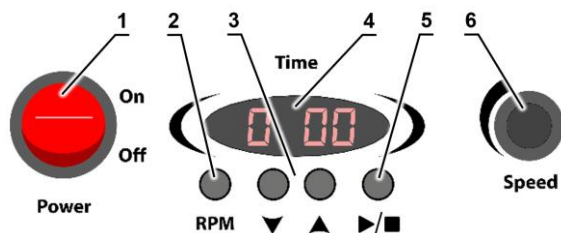

Figure 1. Control panel
- 5.3. Turn **Power** switch (fig. 1/1) **On**. The switch and display (fig. 1/4) light up; standby shows set time or speed when RPM is pressed.
- 5.4. Set operation time with ▼/▲ keys (fig. 1/3). Time is displayed in hours and minutes.
- 5.5. Set shaking speed with **Speed** knob (fig. 1/6). Speed appears while turning.
- 5.6. Press ►/■ (fig. 1/5) to start shaking and timer.